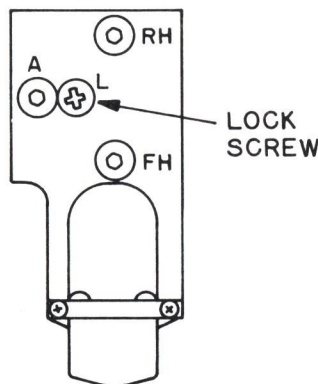

FIGURE 7-1
- c. When the 15 kHz azimuth tone is present, adjust the azimuth screw A (refer to Figure 7-1) of the reproduce head until a maximum audio output level is observed.
- b. While playing the 15 kHz full track azimuth tone, carefully adjust the playback azimuth screw A (see Figure 7-1) for a maximum reading of the volt meter. Observe the mechanical position of the azimuth screw.